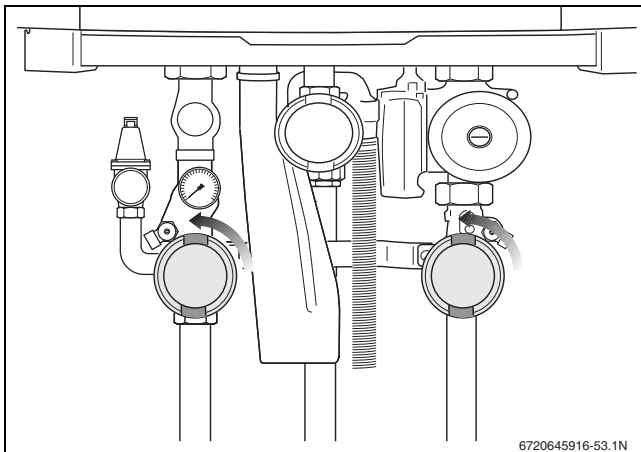

Fig. 56 Opening the isolating valves (here: open position)
- ▶ Open the heating supply and return isolating valves on the pump group (→ fig. 56). The open position is parallel to the pipe.